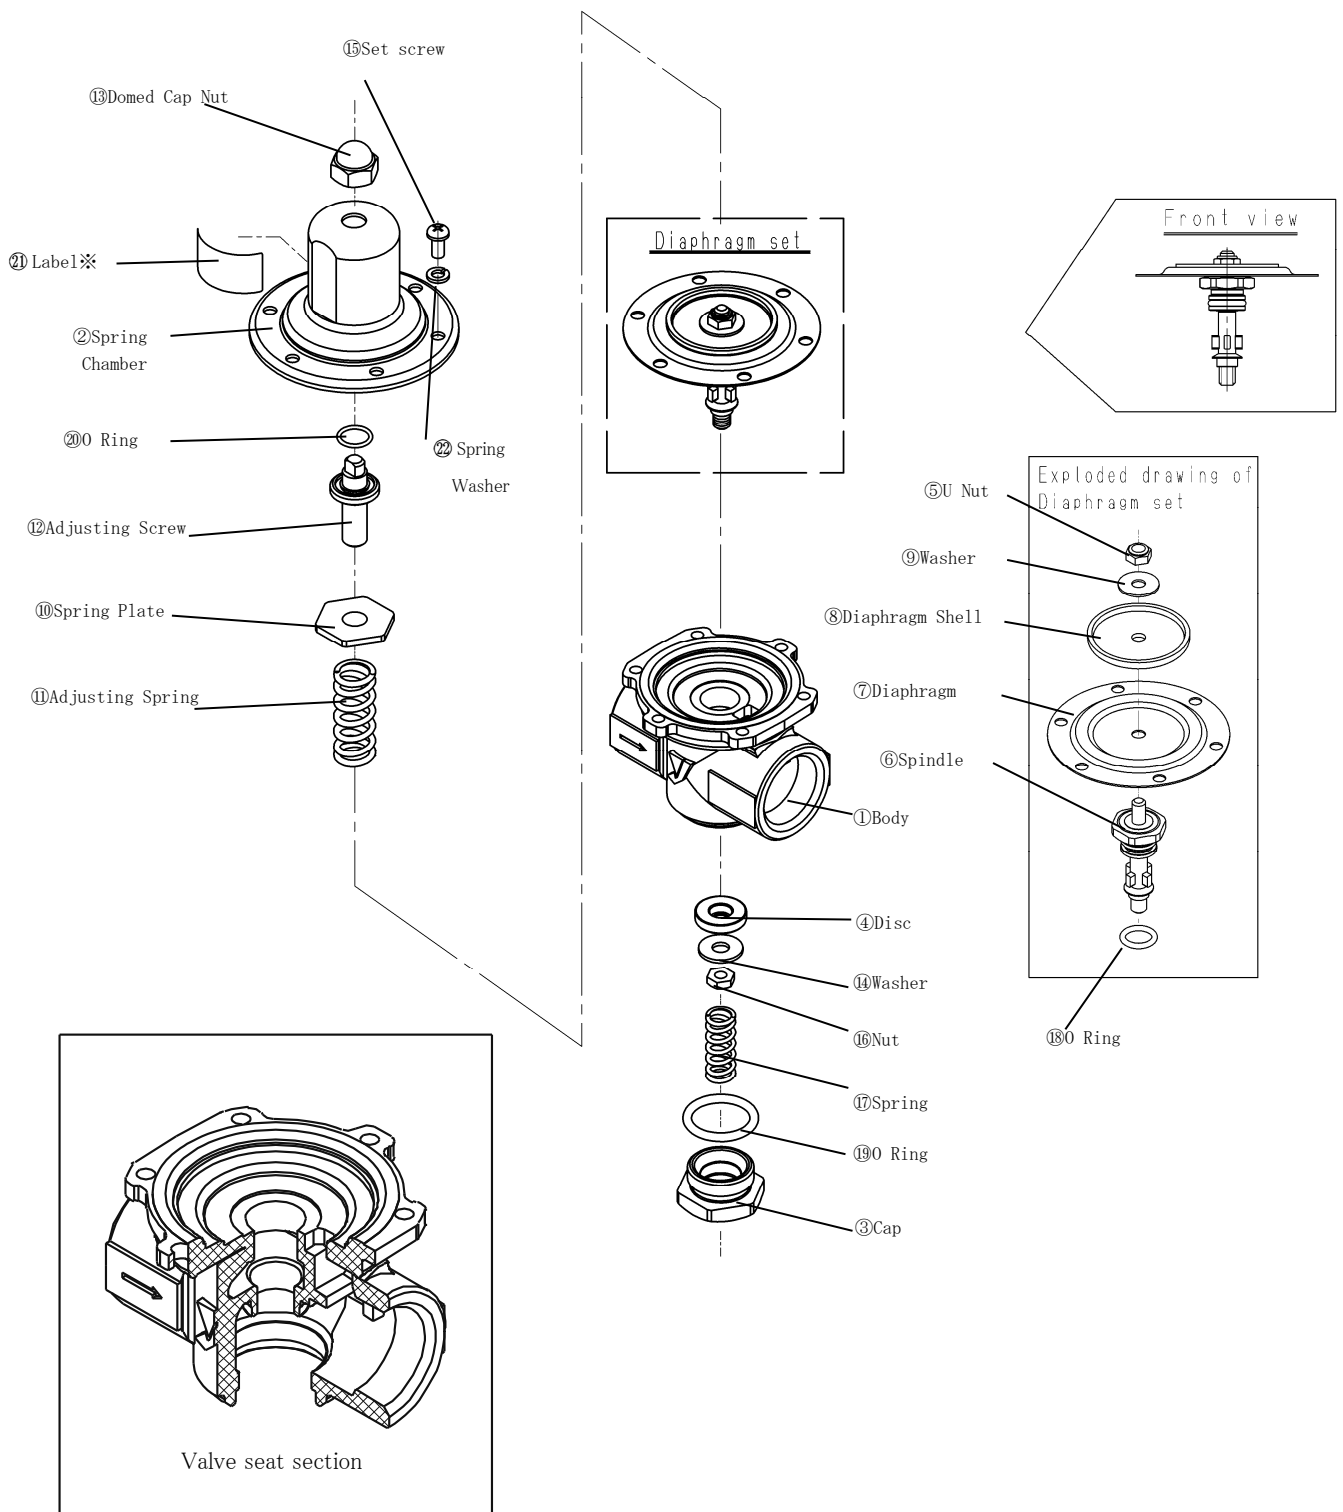

Fig. 3 Exploded drawing of GD-41Type
Longevity of expendable parts depends on frequency and condition of use. Rough standard of life estimation is given below. (Part number shown in the table below refers to the number in Fig. 3, Exploded drawing of GD-41Type.)
6.2 Troubleshooting (Refer to fig. 3)※Same GD-43 Type
- I . ii Pinched foreign material or flaw found on valving element P or valve seat (For valve seat, see Fig. 3 Exploded drawing of GD-41Type.)